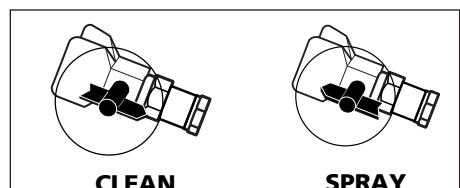

Figure 17 - Clean and Spray Position
3. Rotate the tip back to the spray position and continue spraying (See Fig. 17).